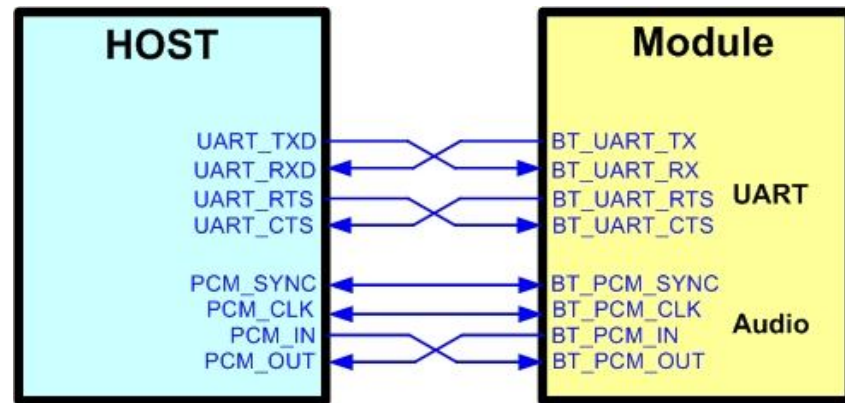

Figure5. Bluetooth verification connection interface to Host UART
- ❖ Refer to Figure5 UART pin definition connects the J21 interface of AP5875SA evaluation board to Host UART control interface.